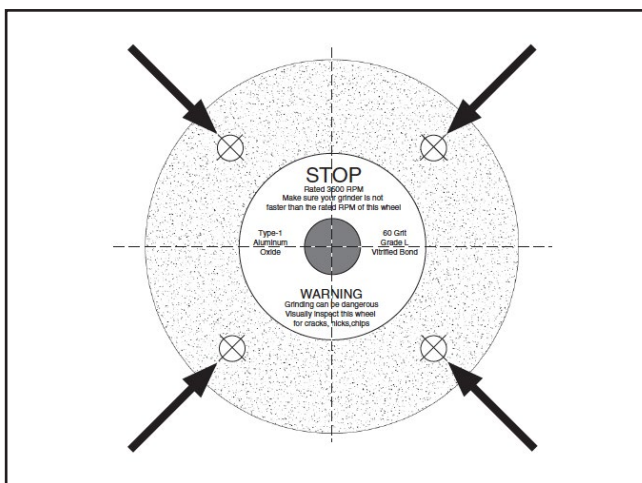

Figure 12. Tapping locations for a ring test.
3. At the four spots on the wheel shown in **Figure 12**, gently tap the wheel with a non-metallic object, such as a screwdriver handle or wooden mallet.